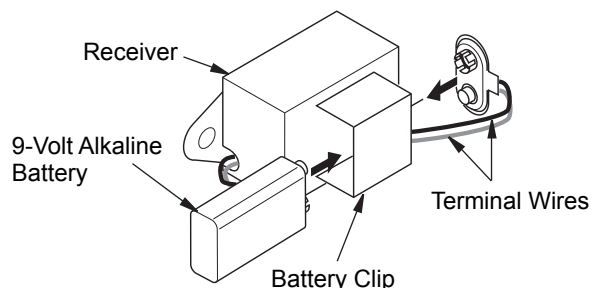

Figure 37 - Attaching Alkaline Battery to Receiver
3. Locate the battery clip mounted on the back of the receiver. Slide a 9-volt alkaline battery (not included) through the clip (see Figure 37).